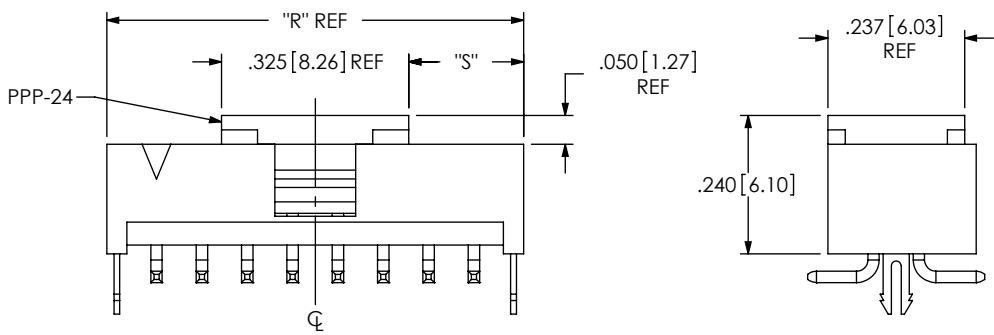

FIG 4
-P: PICK & PLACE PAD (USE PPP-24, SEE FIG 4, SHT 2) (-SM OPTION ONLY)